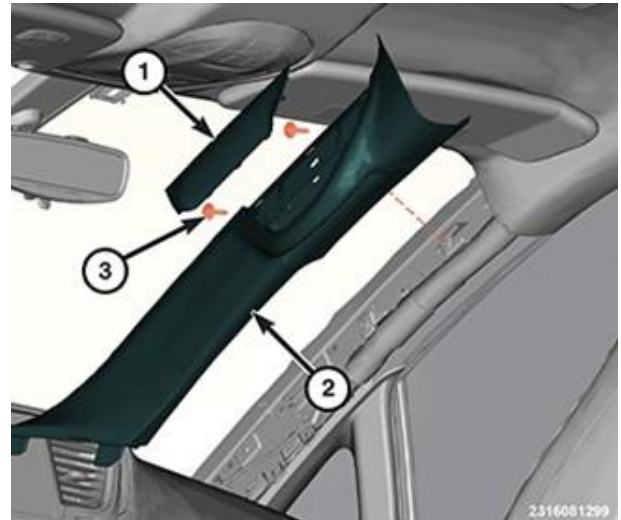

Figure 2 – A-Pillar Trim Panel
- If equipped** with a grab handle, use a trim stick or equivalent, remove the cover. (Figure 2).
- If equipped** with a grab handle, remove the two bolts. (Figure 2).
- By hand, pull at the top of the A-pillar trim panel working towards the bottom releasing the retaining clips (Figure 2).
- Lift the A-pillar trim panel upward and remove it from the instrument panel (Figure 2).